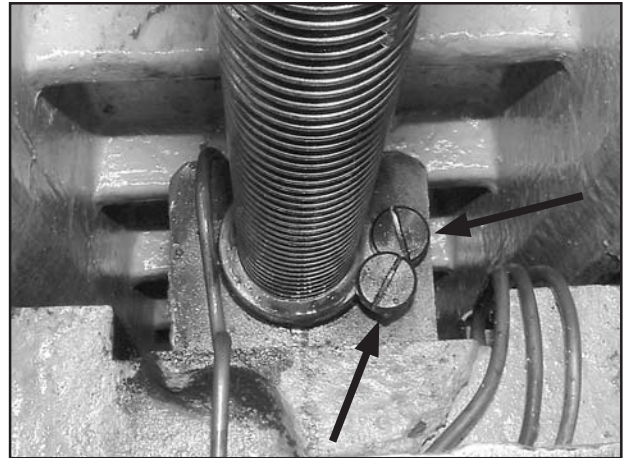

Figure 90. X-axis lead screw backlash adjusting screws.
2. Locate the lead screw backlash adjusting screws underneath the left side of the table, as shown in **Figure 90**.